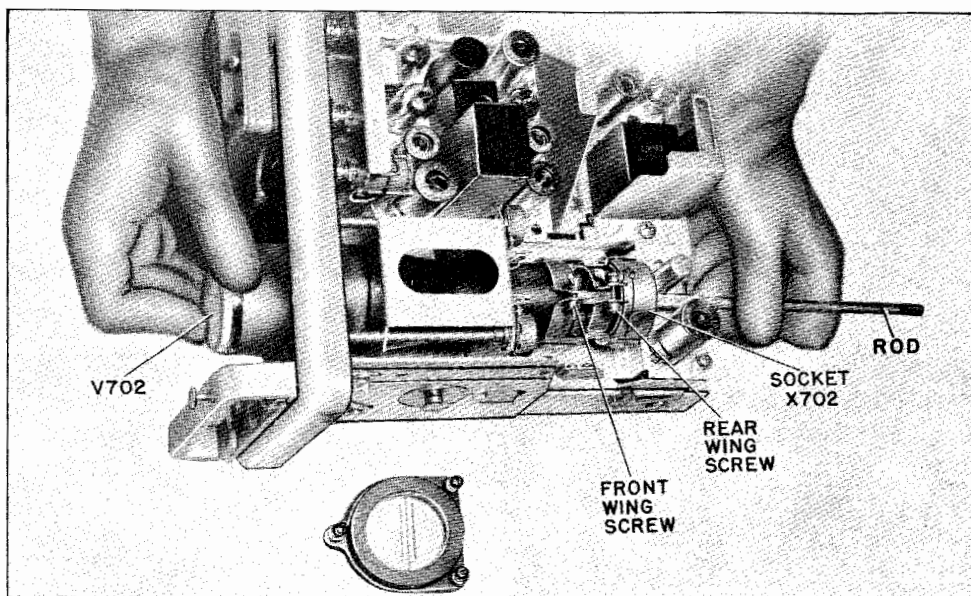

Figure 5-5. Removal of Cathode-ray Tube from Tuning Monitor
3. SCREW CLAMP. — WARNING: JUMPER CABLE SHOULD NOT BE CONNECTED. See Figure 5-5. Unscrew rear thumbscrew of cathode-ray tube socket, remove front window on panel, and through hole in socket, push tube forward through hole in front panel, using a rod (see Figure 5-5) such as a pencil or similar tool. Replace tube, tighten thumbscrew and replace panel window. Front thumbscrew may have to be loosened to rotate tube so image lines on tube are parallel to engraved lines on window.